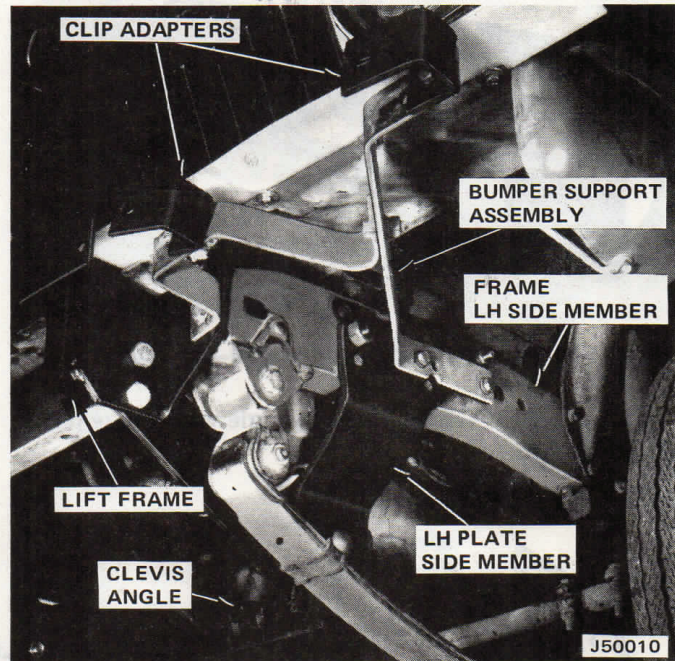

Fig. 1-5 Bumper Installation
(19) Bolt bumper brackets and bumper braces together using original hardware.
(20) Refit front bumper sections to original bumper brackets and side bumper brackets using original hardware (fig. 1-5).